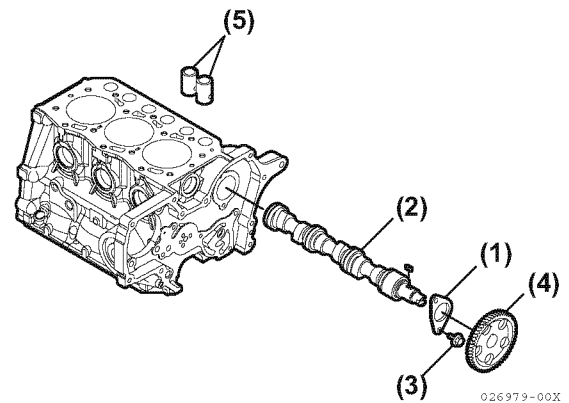

Figure 6-47
2. Remove two bolts (**Figure 6-47, (3)**) retaining the camshaft thrust plate (**Figure 6-47, (1)**).
3. Extract the tappets (**Figure 6-47, (5)**) through the top of the cylinder block. Mark the tappets so they can be reinstalled in the same location.
4. Slowly pull the camshaft (**Figure 6-47, (2)**) assembly out of the engine being careful not to damage the front camshaft bushing.
5. Remove the camshaft gear (**Figure 6-47, (4)**) only if the gear or camshaft require replacement. Use a knife-edge puller and a press to remove the gear. The gear is a shrink-fit and will need to be heated to 356° - 392°F (180° - 200°C) to remove.